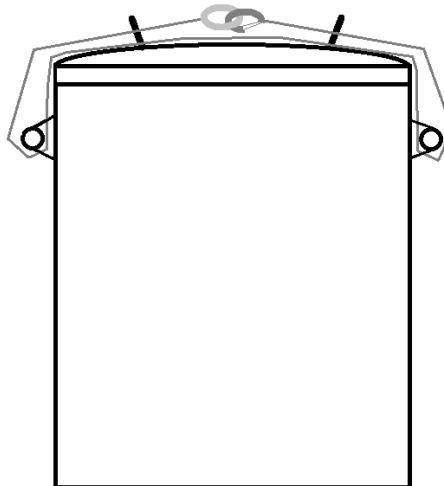

Figure 9: Security Cable Installation
- Loop the safety cable through both lid handles and through the handles on both sides of the vessel and then back through the lid handles so the two ends meet then secure the two ends together (See Figure 9)